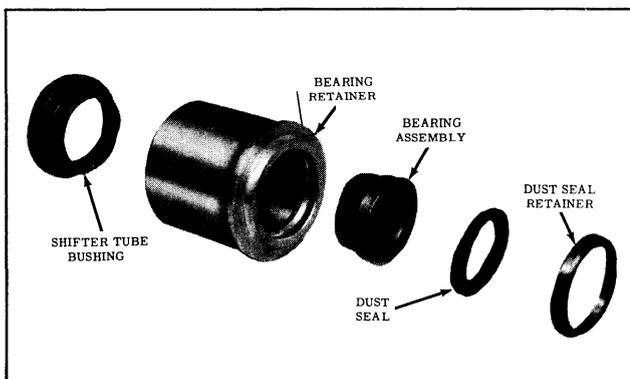

Fig. 5-96 Lower Bearing Retainer Assembly
13. If necessary to service the lower bearing retainer assembly (power steering), the bearing assembly and dust seal may be driven out of the retainer. (See Fig. 5-96) If shifter tube bushing replacement is necessary, it may be driven from the retainer.
dust seal with engine oil. To install the lower bearing, place the bearing in the retainer, then drive the dust seal and retainer into the bearing retainer. (See Fig. 5-96) Lubricate the inside diameter of the shifter tube bushing with special seal lubricant 567196. When installing the shifter tube bushing, it should bottom in the counterbore of the retainer.
8. If necessary to service the lower bearing retainer assembly (power steering), the bearing assembly and dust seal may be driven out of the retainer. (See Fig. 5-96) If shifter tube bushing replacement is necessary, it may be driven from the retainer.
To reassemble, reverse the above procedure paying particular attention to the following: If the lower bearing assembly was disassembled, saturate the felt on the bearing and the felt dust seal with engine oil. To install the lower bearing, place the bearing in the retainer, then drive the dust seal and retainer into the bearing retainer. (See Fig. 5-96) Lubricate the inside diameter of the shifter tube bushing with special seal lubricant 567196. When installing the shifter tube bushing, it should bottom in the counterbore of the retainer.